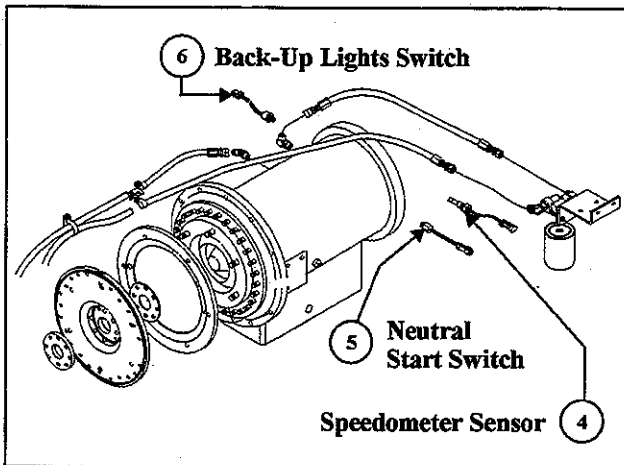

Figure 6—Backup Neutral Start Switch and Speedometer.
2. Disconnect backup switch (6), neutral start (5) and speedometer switch (4) for the Allison transmission. (See Figure 6—Backup, Neutral Start Switch and Speedometer.)